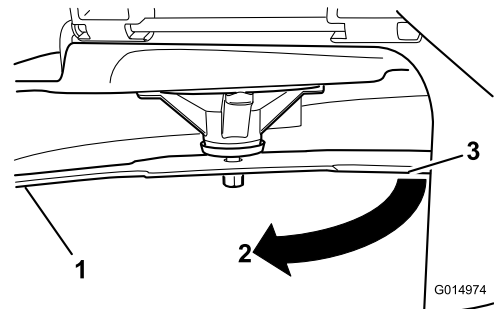

Figure 49
4. Rotate the same blade 180 degrees so that the opposing cutting edge is now in the same position (Figure 49).